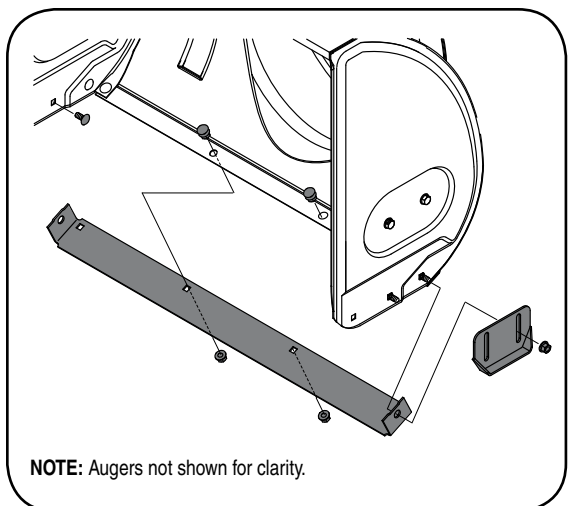

Figure 16
5. Loosen the lower hex nut on the drive cable bracket. See Figure 16.
2. Reassemble new skid shoes with the four carriage bolts (two on each side) and hex flange nuts. Refer to Figure 16.